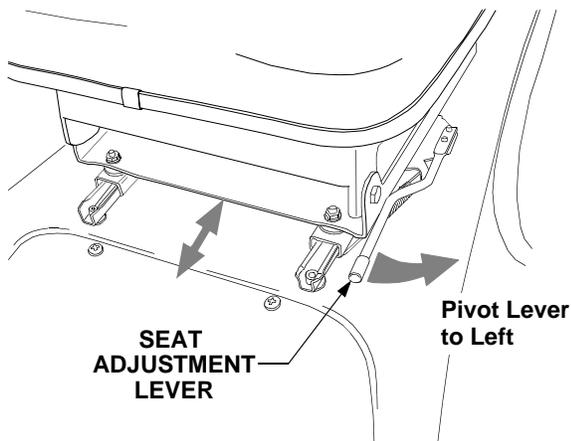

Figure 25
- After repositioning the seat, release the lever to lock the seat in position. Slide the seat slightly forward or rearward to assure it is locked or until engagement of the lock is felt. See Figure 25.